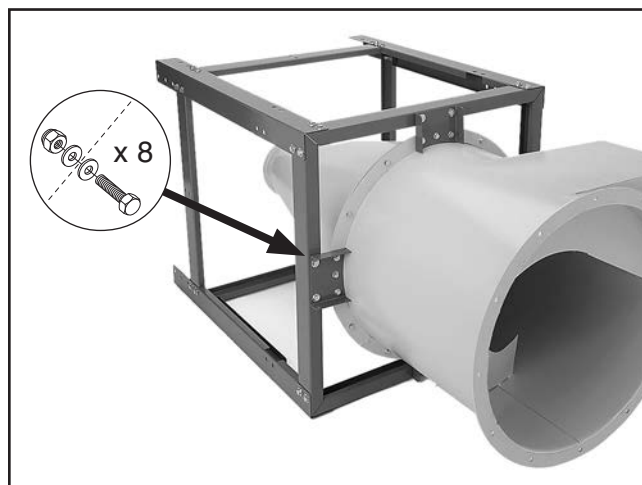

Figure 15. Collector assembly fastened to the stand.
7. With the help of another person, lay the stand assembly on its side on the cardboard and slide the collector assembly into the stand assembly, as shown in **Figure 15**.
8. Fasten the collector assembly to the stand with (8) $\frac{3}{8}$ "-16 x $\frac{3}{4}$ " hex bolts, (16) $\frac{3}{8}$ " flat washers, and (8) $\frac{3}{8}$ "-16 lock nuts, as shown in **Figure 15**.